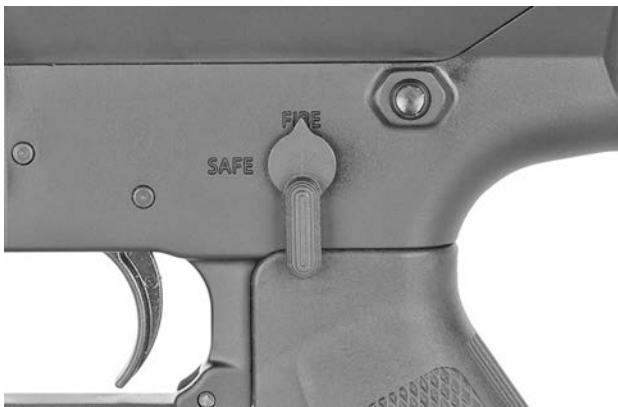

Figure 12
3. Mover the safety lever to FIRE. See figure 12.